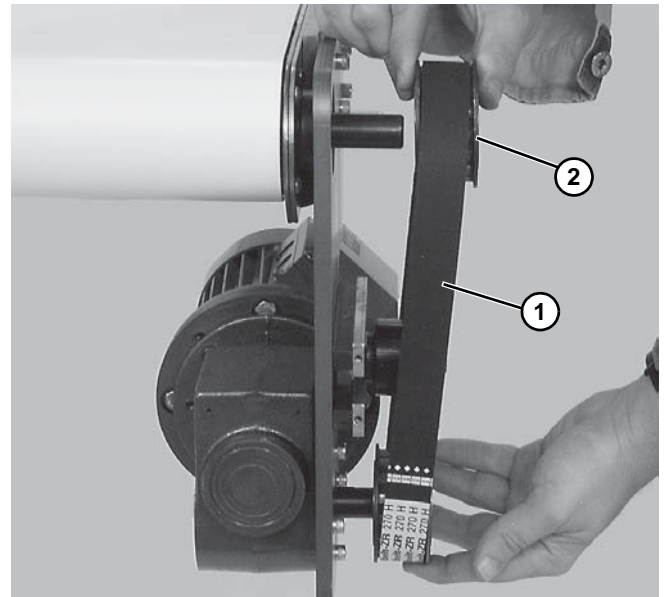

Figure 16
3. Remove timing belt (**Figure 16, item 1**).
<p>If timing belt does not slide over pulley flange, loosen driven pulley taper-lock screws (Figure 16, item 2) and remove pulley with belt (Figure 16, item 1). For re-installation, see steps 6 thru 8 on beginning on page 9.</p>